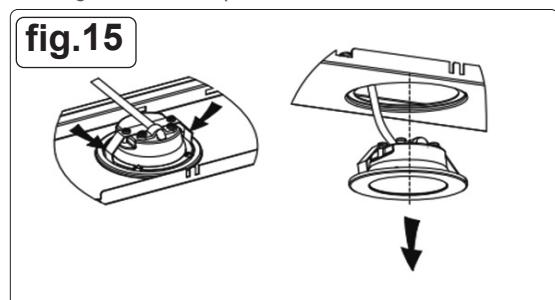

fig.15
- Use a tool or the hand to press the sprung clips of both sides of LED light to the inside, until the light is pressed out, then slightly pull the light connecting wire out. See fig.15